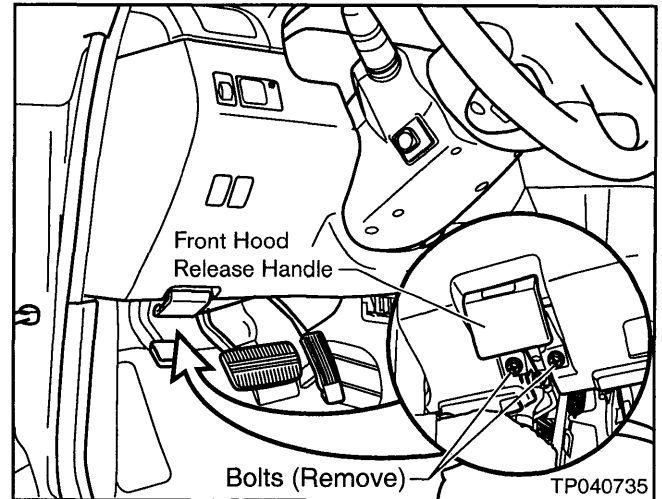

Figure 1
- a. Remove the two Bolts that secure the Front Hood Release Handle (see Figure 1).